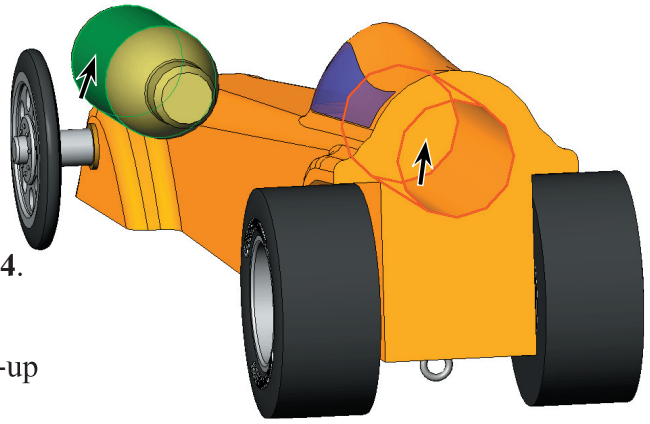

Fig. 24
Step 2. Click **cylindrical face of cartridge** and **cylindrical face of cartridge hole**, Fig. 24.